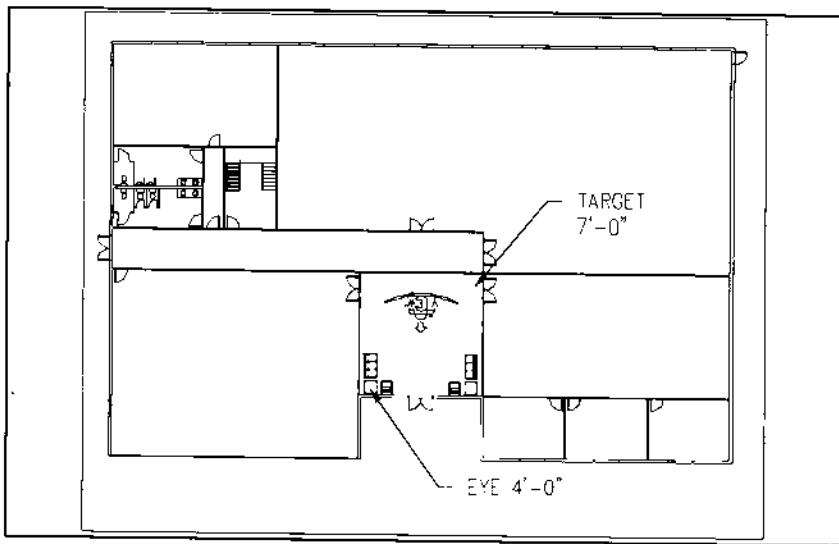

Figure 9.
- Make a new perspective selecting two new points at opposite ends of the entry area as shown in Figure 9.